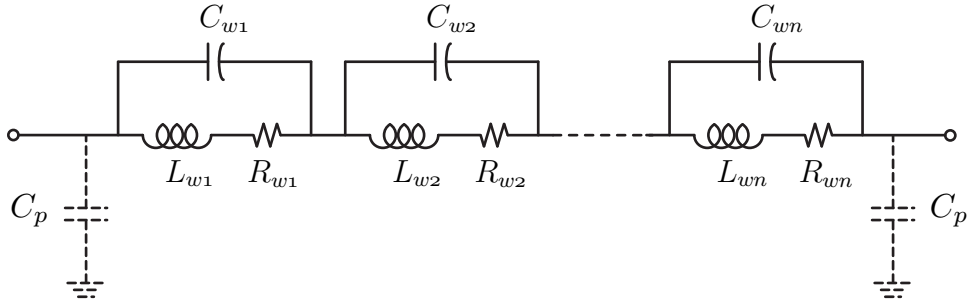

Figure 7: Distributed model for a solenoidal inductor.
In reality, the interwinding capacitance is distributed non-uniformly throughout the structure and a more sophisticated model, shown in Fig. 7, can be used to capture the impedance of the structure more accurately. In practice, though, this is not necessary as long as we employ the inductor well below its *self-resonant frequency* (SRF), ω_0 . The SRF is defined as the frequency at which the imaginary portion of the inductor impedance $Z_L(\omega_0)$ reaches zero, $\Im(Z_L(\omega_0)) = 0$. Above this frequency the inductor begins to behave like a capacitor, as more energy is stored in the electric field rather than the magnetic field. This occurs because the signal is bypassing the windings in favor of the capacitive coupling mechanism (i.e. the interwinding capacitance).
2. Suppose that the inductor model in the previous section is actually an air-core inductor made of 5 windings. Simulate a distributed model of the inductor by assuming that the L and C_p are uniformly distributed from turn-to-turn. Compare the frequency dependent impedance of the distributed model with the simple model. Over what frequency range is the simpler model adequate? (This question might not be stated as intended, as it doesn't match Figure 7 on page 7. That figure has C_w and R_w distributed across turns, not C_p . But I guess it's possible that L and C_p might be what's intended here (?). C_p could be distributed, as the bottom edge of each turn will also have some parasitic capacitance to the ground plane.)